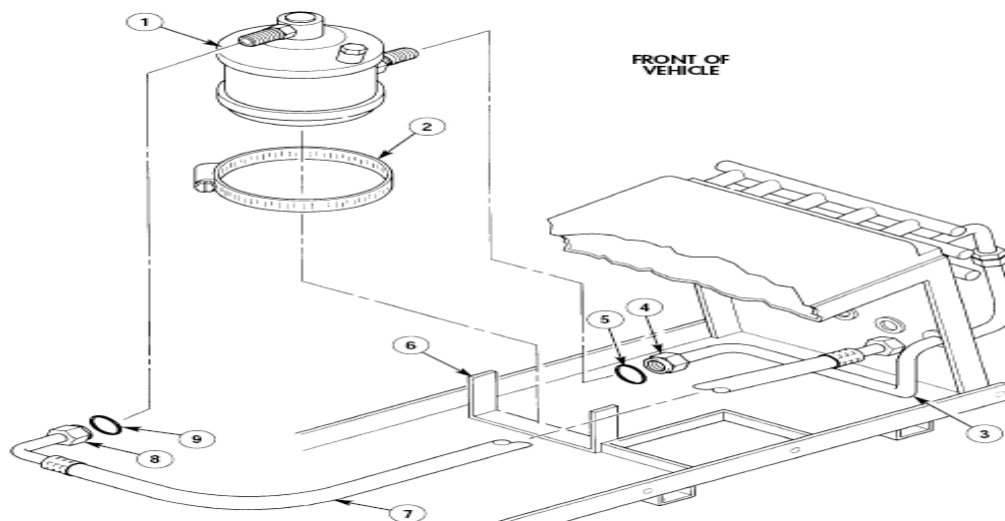

Figure 63
(24) Install A/C receiver/dryer, part number 04-00453, on bracket (6) with clamp (2) as shown in **Figure 63**. **Do not tighten clamp (2).**
(25) Apply refrigerant oil to O-ring, part number 725721, and install O-ring (5) on supply line (3) as shown in **Figure 63**.
(26) Install supply line (3) on A/C receiver/dryer (1) and tighten nut (4) to 12 foot pounds (16 N•m) as shown in **Figure 63**.
(27) Apply refrigerant oil to O-ring, part number 725721, and install O-ring (9) on return line (7) as shown in **Figure 63**.
(28) Install return line (7), on A/C receiver/dryer (1) and tighten nut (8) to 12 foot pounds (16 N•m) as shown in **Figure 63**.
(29) Tighten clamp (2) as shown in **Figure 63**.